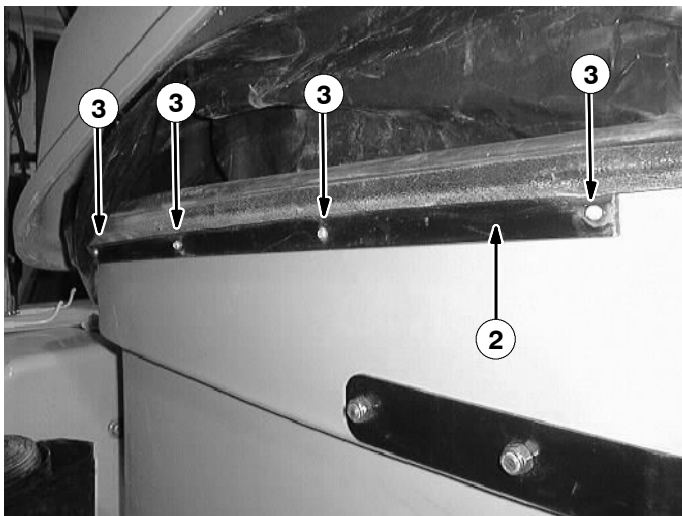

Fig. 2 - Side stiffener strip installation
8. Center one of the shorter, side stiffener strips (2) tight up under the hopper lip seal on the right side of the hopper. (Refer to FIG. 2 and 4)
10. Using the side stiffener strip (2) as a template, mark and drill four 3/16 (4.76 mm) rivet holes. (Refer to FIG. 2 and 4)
11. Mount the side stiffener strip (2) to the canister with 4 rivets (3). (Refer to FIG. 2 and 4)
12. Mount the second side stiffener strip (2) to the left side of the canister with pop rivets (3) in the same fashion as the first one. (Refer to FIG. 2 and 4)